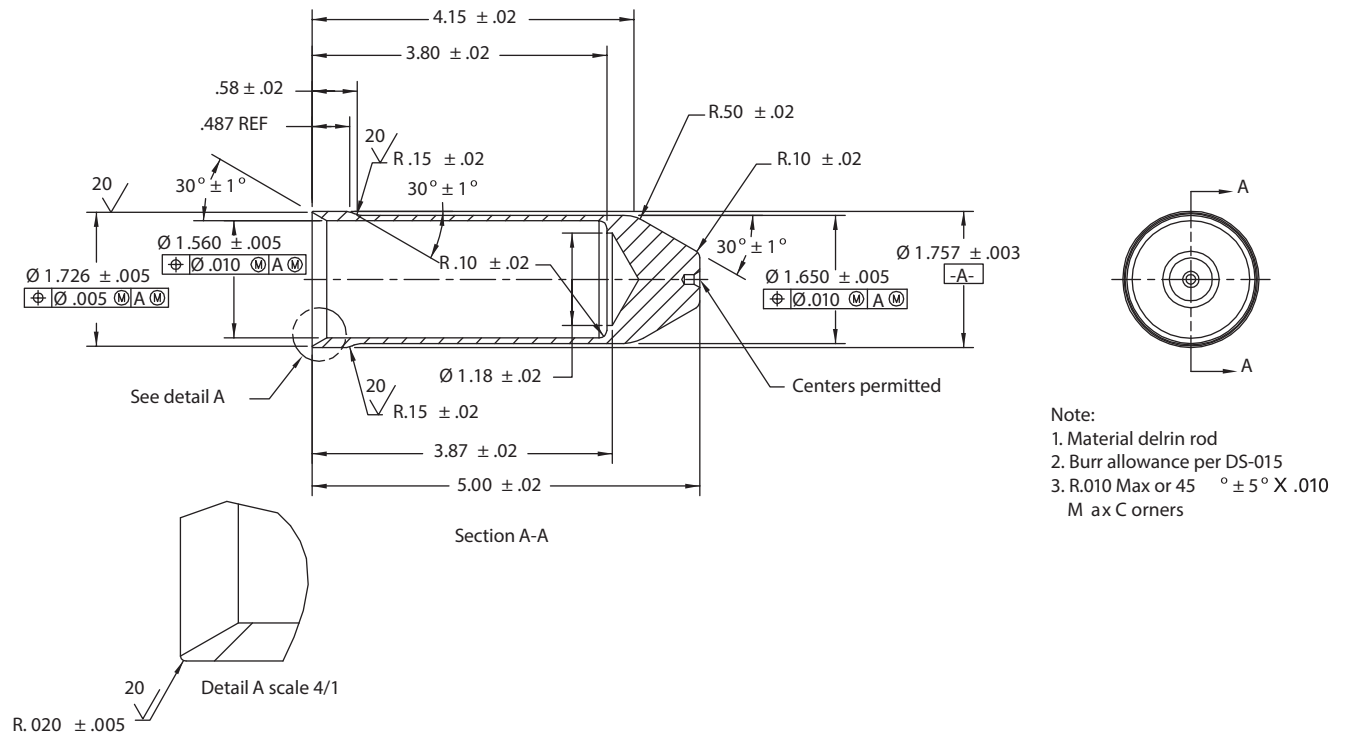

Figure 12. Seal bullet (6041669-001) for input shaft options equal to or smaller than 23Tooth 16/32 Pitch splines (Ø1.486" maximum diameter)
- iv. Press the new greased shaft seal over a shaft bullet (see Figure 12- 6041669-001). The closed face of the shaft seal is to face the closed end of the bullet.
- e. Press the new greased dust seal over a shaft bullet (see Figure 12 - 6041669-001). The rubber face with lettering of the dust seal is to face the closed end of the bullet.